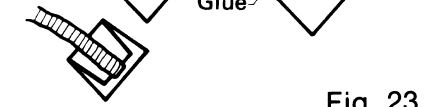

Fig. 23
- C Spread glue on the folded side of the Mount and insert it into the front of the body tube at least 5cm inside. Press it firmly against the wall of the tube (Fig. 23).